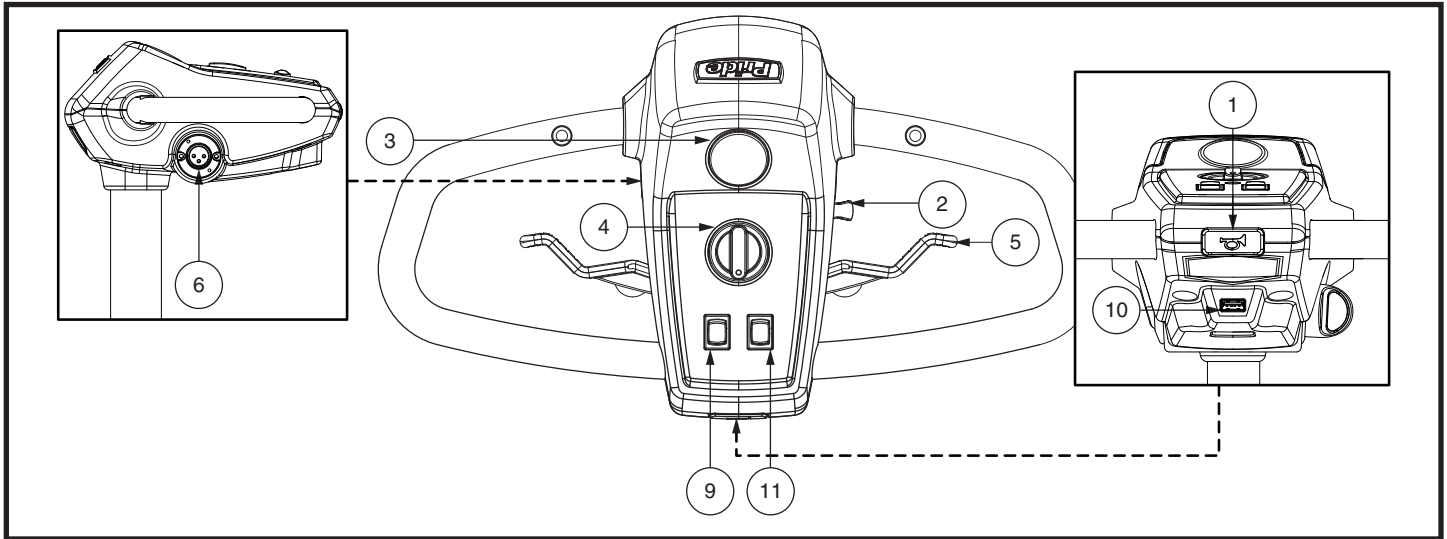

Figure 6. Tiller Console F (Models 66 and 67)
**For models 66 and 67 (see figure 6):**